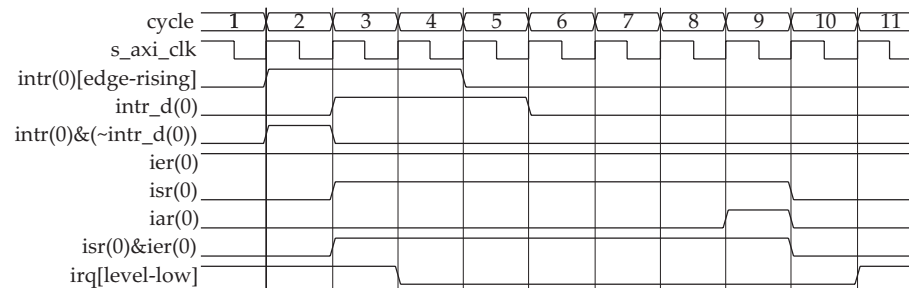

Figure 22: Input Intr - Edge Sensitive (Rising) and Output Irq - Level Sensitive (Active Low)
- Configured Input Interrupt (Intr) for Edge sensitive (rising) and Output Interrupt Request (Irq) to Level sensitive (active Low) and is shown in Figure 22.